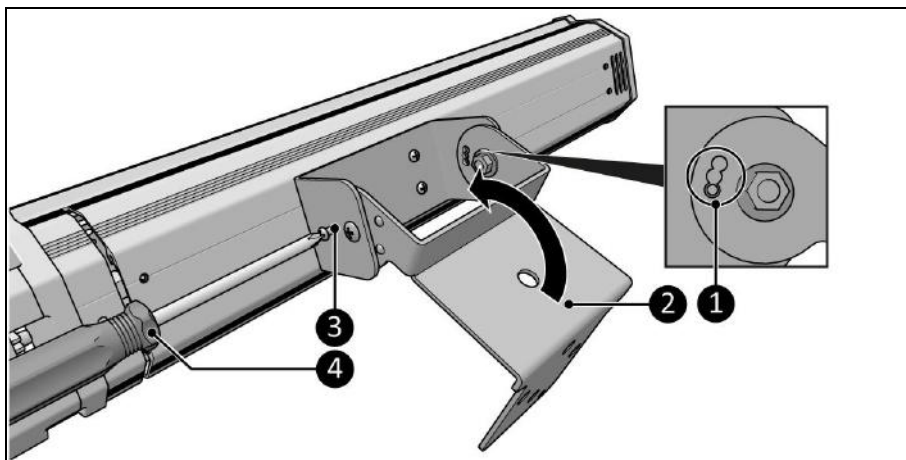

Figure 7
4. Move the suspension bracket (Figure 7, pos. 2) and choose one of the three positions (Figure 7, pos. 1)
5. Secure the device in the desired position with the small screws (Figure 7, pos. 3) and a Phillips screwdriver (Figure 7, pos. 4).